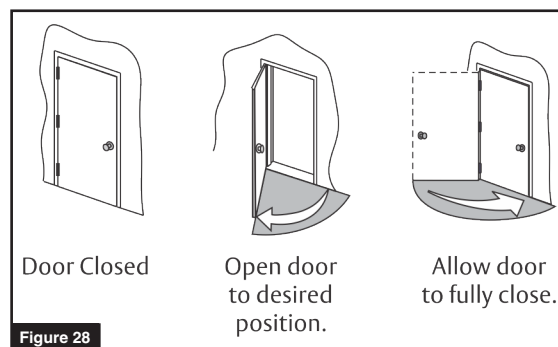

Figure 28
- Push in on joystick again, while door is still closed, to set Home or closed position (Figure 28). Display changes to "Set Open Limit".
- Open door to desired open position (Figure 28) and push in on joystick again. Display changes to "Closing to Home".
- Allow door to fully close again (Figure 28). Display changes to "Home".